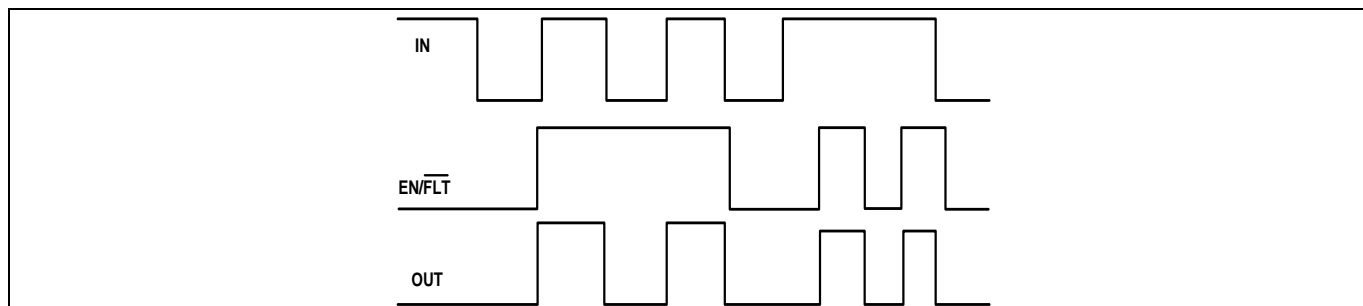

Figure 14 Input/output/enable pins timing diagram
The relationships between the input (IN), output (OUT) and enable ($\overline{\text{EN/FLT}}$) signals of the 1ED44176N01F are illustrated below in Figure 14.